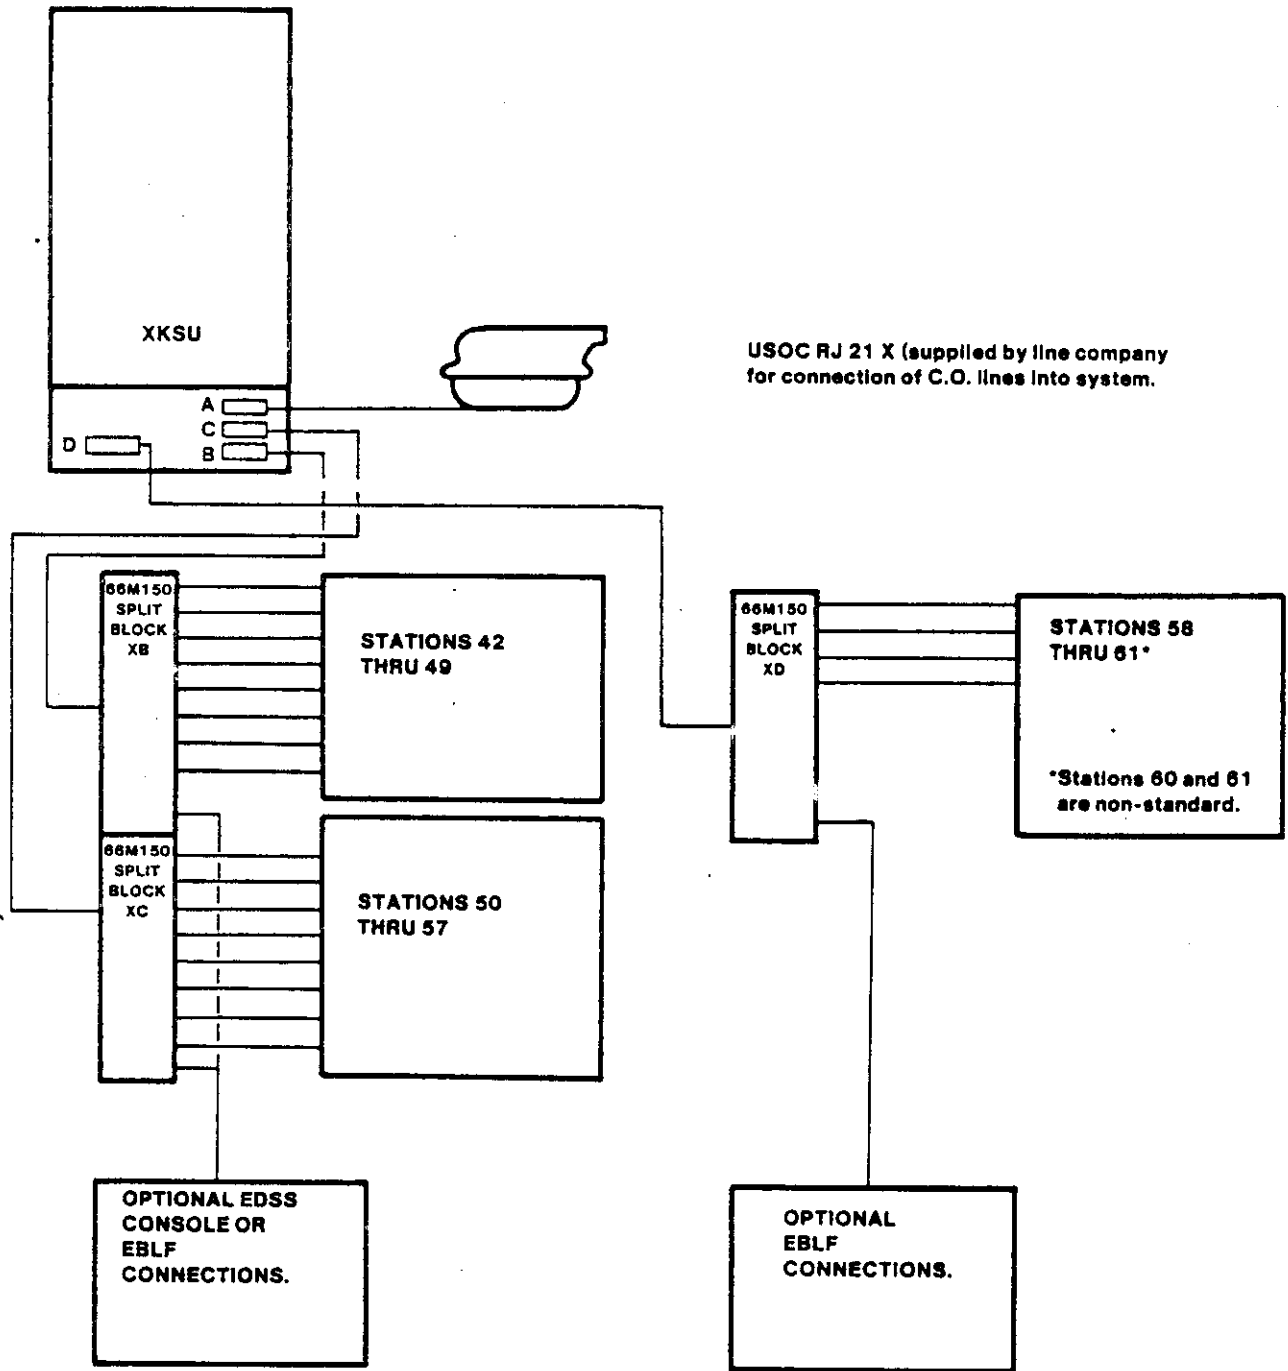

FIGURE 13—X MDF CONFIGURATION
3.6.6 System expansion by addition of the XKSU does not require the replacement of existing PCB's or station equipment and is accomplished on-site. MDF connection is as shown in Figure 13.